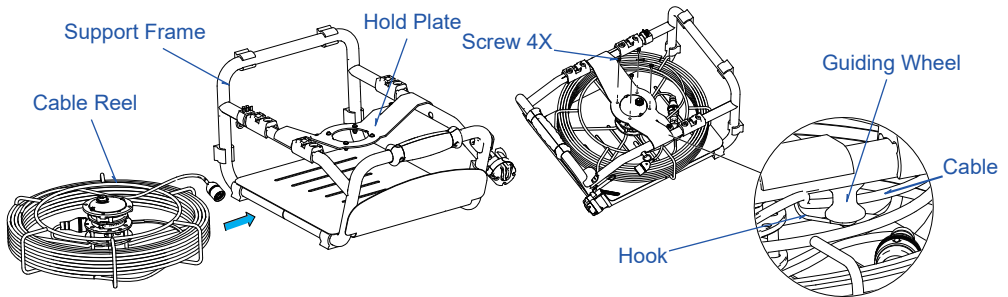

Figure 6. Install Cable Reel
1. Install Cable Reel (Figure 6.)